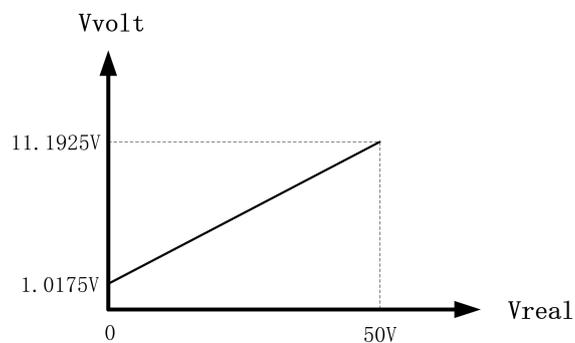

Fig. 4-16 Proportional diagram: real welding voltage V.S. voltage of analog output signal
2. The proportional diagram correspondence between the real welding voltage displayed on welding machine panel and the analog output value for welding voltage from the machine is shown in Fig. 4-16.